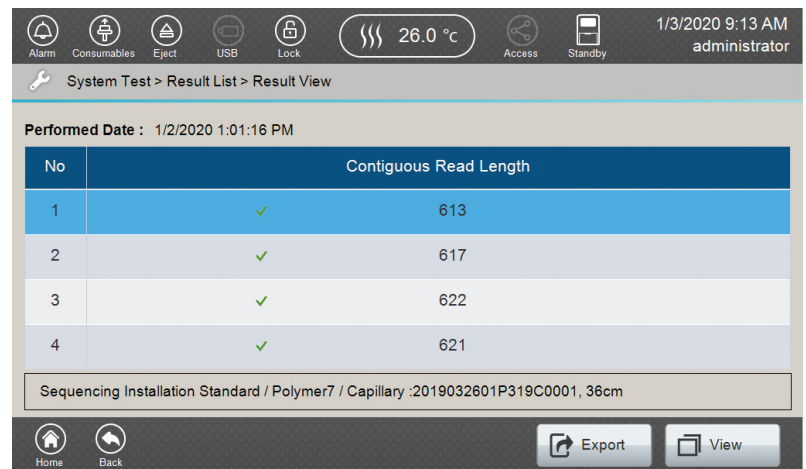

Figure 230. Sequencing System Test 'Result View' screen with selected sample.
- Select the line in the Result List corresponding to the system test sample you wish to review. This will activate **Export** and **View** in the footer (Figure 230).